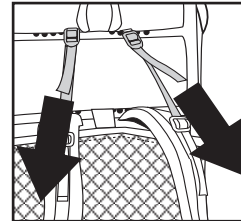

Figure 2J
D. Snug the load-lifter straps (Figure 2J), if applicable. This lifts the shoulder straps (and the pack's weight) off the top of your shoulders. Don't allow the load-lifters to pull the shoulder straps more than 1/2" off your shoulder, or it will cause pressure points.